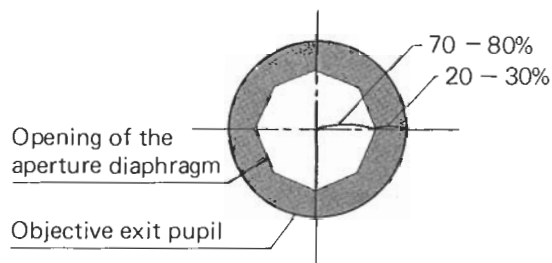

Fig. 16
- After completing focus adjustment, remove one of the eyepieces from the observation tube and look into the empty eyepiece tube. As you stop down the aperture iris diaphragm, the image of the iris diaphragm can be seen in the objective pupil. Adjust the opening of the diaphragm to match the N.A. of the objective in use. If the specimen is low in contrast, it is recommended to stop down to 70% to 80% of the objective N.A. (Fig. 16)